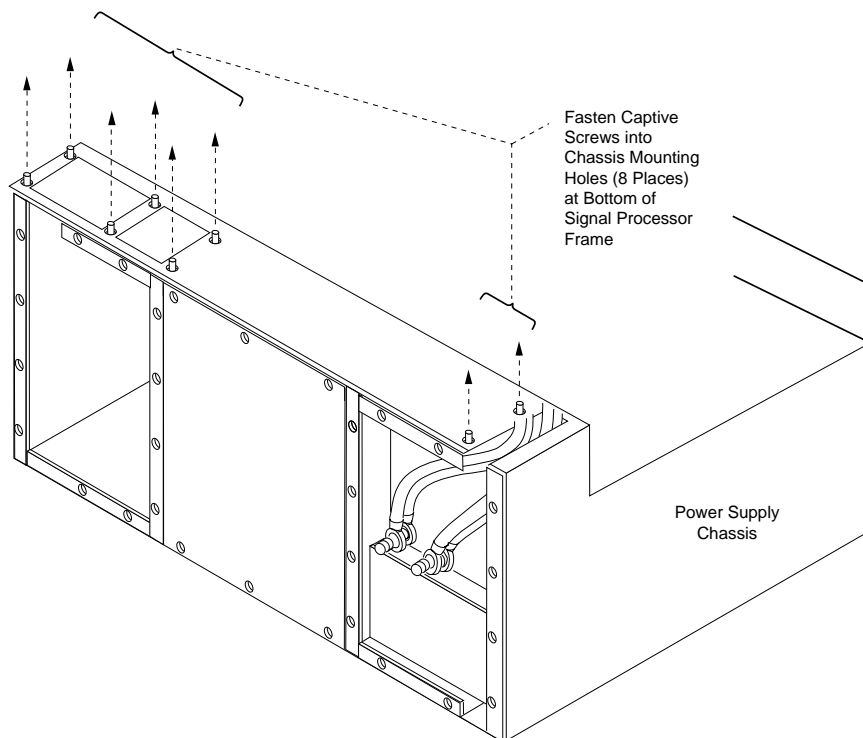

Figure 2-18. Captive Screw Locations, Frame Power Supply (Pioneer)
10. At the rear of the unit, install the 8 “captive” screws (see Figure 2-18) through the top of the power supply chassis into the bottom of the Signal Processor Frame. Tighten the 8 screws securely.